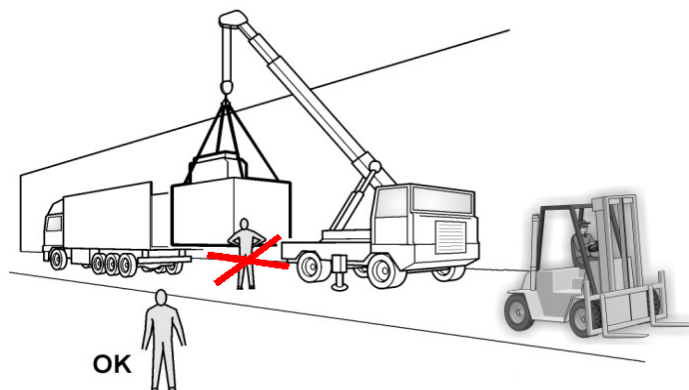

Fig. 7.4
5. When handling, the person assigned to operate the means of transport must ensure that **NOBODY IS NEAR THE CABINET**. Activities of lifting, handling and unpacking the unit should be entrusted exclusively to personnel expert in this type of work (fork lift truck drivers or crane operators) (fig. 7.4).